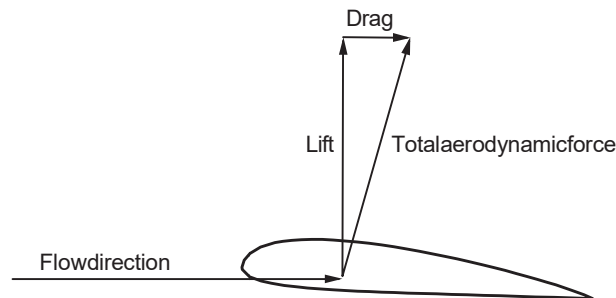

Fig. 3.7.2 Forces acting on a turbine blade
- This force is the resistance of the object's movement in the fluid and pushes against the direction of the object's movement (See Fig. 3.7.2)